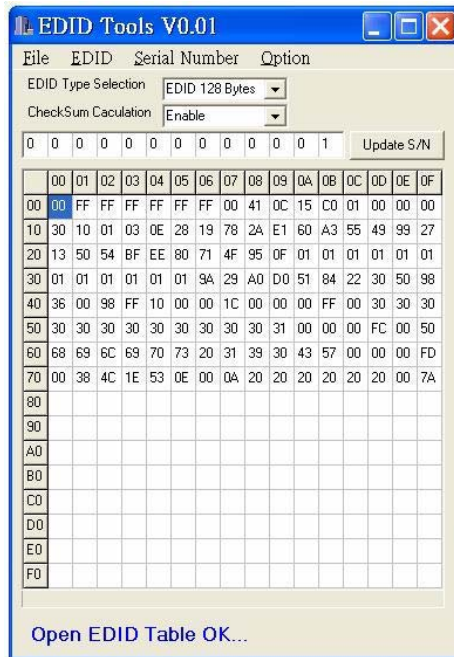

Fig.7
3. Load EDID file OK as shown in Fig.7.